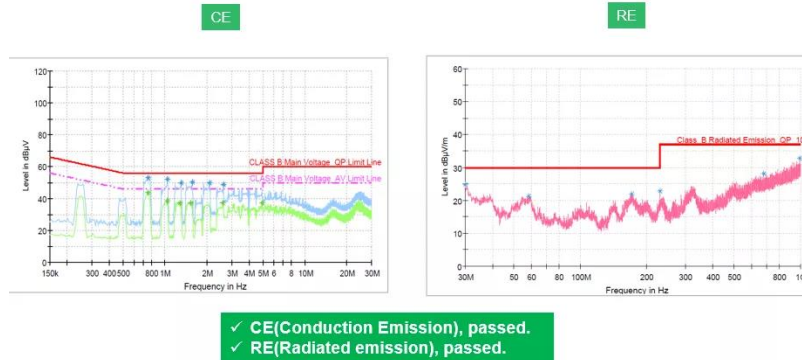

Figure 6: MP8030 CE and RE Results
Figure 6 shows how the MP8030 successfully passed both conducted emission (CE) and radiated emission (RE) tests for EMI.